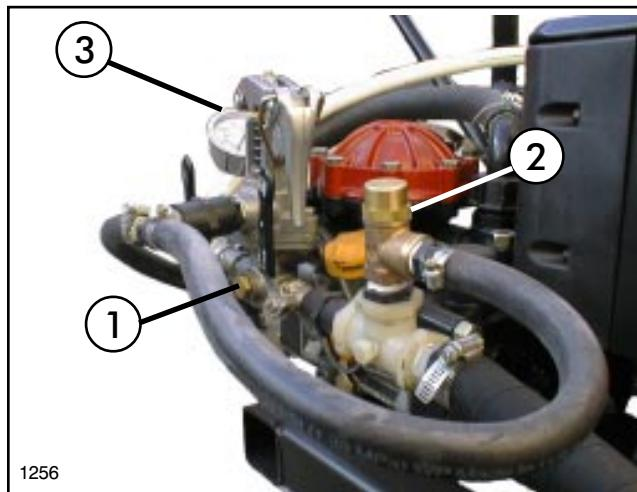
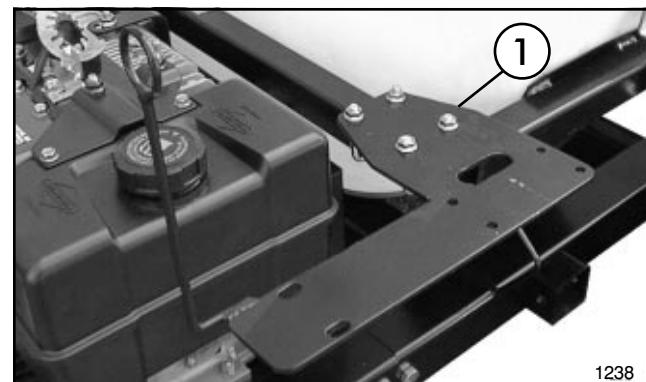

FIG. 8
FIG. 9
1. Install (1) 1/2" Barbed Tee into the front port of the Pressure Relief/Adjustment Valve using (1) 1/2" Nipple and Coupling. See FIG. 8.
4. Loosen the (2) hex nuts securing the Pressure Relief/Adjustment Valve to the Diaphragm Pump. Apply thread sealer and install the 1/2" Ball Valve into the L.H. port of the Pressure Relief/Adjustment Valve and retighten hex nuts. See FIG. 8.
5. Apply thread sealer and attach the 3/4" tee to the 1/2" ball valve using (1) 1/2" coupling and (1) 1/2" x 3/4" reducing nipple.
6. Apply thread sealer and install the Relief Valve in the top port in tee using (1) 3/4" x 1/2" reducing bushing as shown in FIG. 8.
7. Apply thread sealer and install (1) 1/2" hose barb in open port in Relief Valve. Connect Relief Valve and barbed tee using (1) 1/2" x 21" hose and (2) hose clamps.
9. Secure Valve Plate to the front bar of the Saddle Assembly using (2) U-Bolts and (4) 5/16" flange nuts. See FIG. 9.
12. Connect Ratchet Valve to tee at pump with (1) 1" x 36" Hose and (2) hose clamps. See FIG. 8 & 10
13. Secure the 1" x 64" Hose to hose barb in the rear of the Ratchet Valve using (1) hose clamp. Route along Saddle frame toward rear of vehicle. Secure hose to Valve Plate using (1) tie cable.
14. Attach handle to Ratchet Valve using (2) 5/16" x 3/4" cap screws and flange nuts.
16. Route Pull Rope along L.H. side of operator for ease of actuating Ratchet Valve. Provided are (2) Ring Guides, (2) R-Clamps, (1) Ring Terminal, (1) Pull Rope Handle, (2) 5/16" x 3/4" cap screws and flange nuts. Use as needed to route Pull Rope.